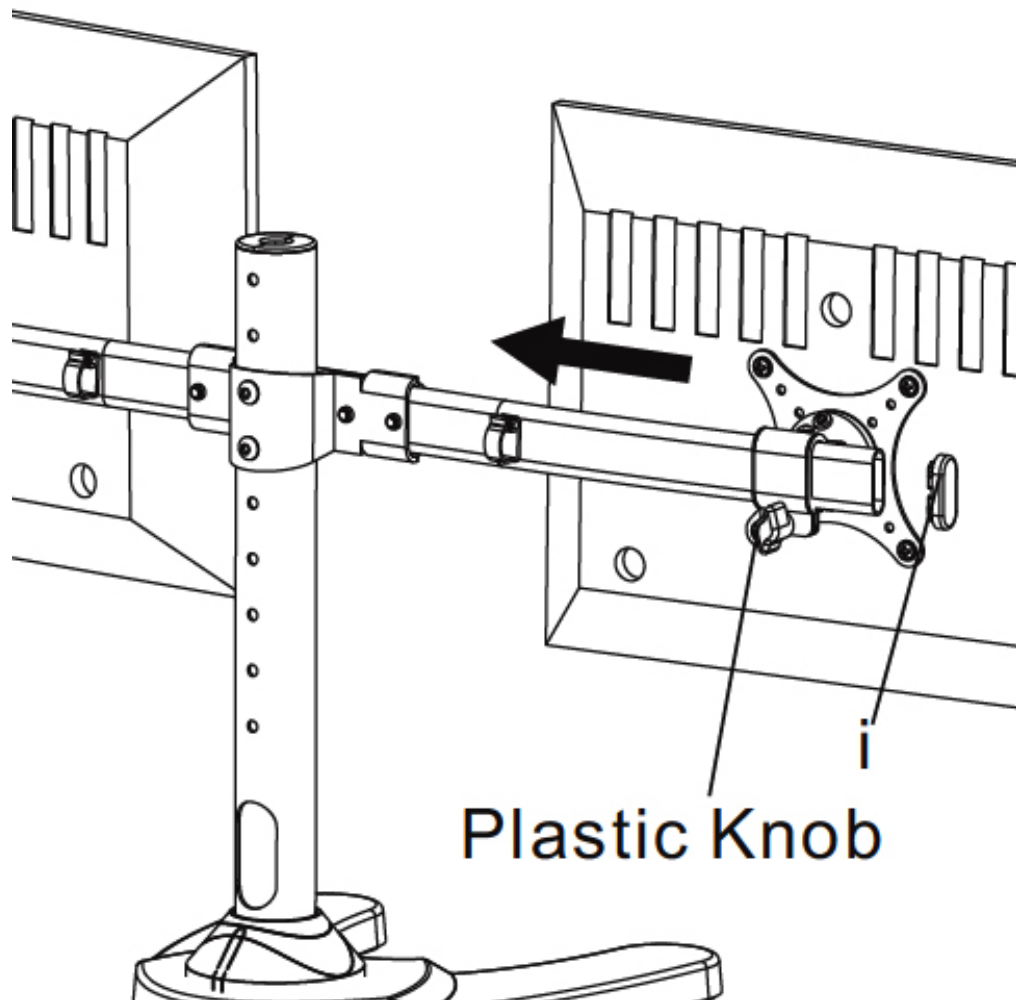

Figure 4a
1. Slide the VESA Plate with Monitor Assembly onto the Arm Assembly, secure it by rotating the **Plastic Knob**, then install the **Arm Plastic Covers (i)** onto the Arm Assembly as shown in **Figure 4a**. **Caution:** For Weighted Base Installation, we suggest you have a helper hold the desk stand upright while attaching your monitors to prevent damage to the monitor or desk stand and ensure your personal safety.